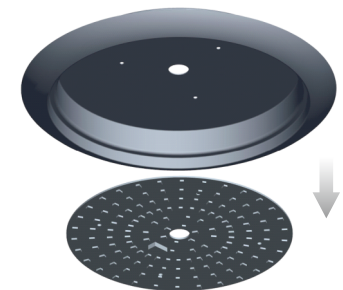

Fig 4.2
4.2 The light set after disassembly is shown in Fig 4.2.